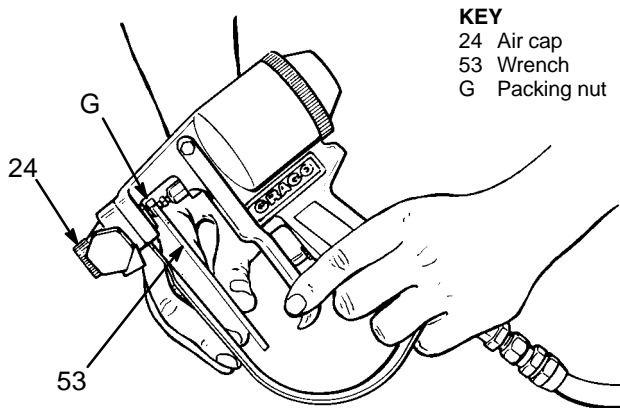

Fig. 10
13. Use the 7/16 in. end of wrench (53) to adjust the packing nut (G) until it is *just snug*. Don't over-tighten it. See Fig. 10.
14. Install the plastic shield (43) around the exposed part of the needle assembly to keep foam over spray from collecting on the needle. See Fig. 10.
15. Connect the fluid manifold (25) to the gun using the 3/16 in. wrench (48) to tighten the capscrew (7) firmly. Torque to 40 in-lb (4.5 N•m). See Fig. 10.
1. The fluid hoses can be connected straight down from the manifold or straight back from it as shown in Fig. 10. Plug the manifold inlets that will not be used with steel plugs (32).
2. Connect the fluid hoses to the manifold inlets. Be sure the air hose (K) is connected to the gun. See Fig. 10.